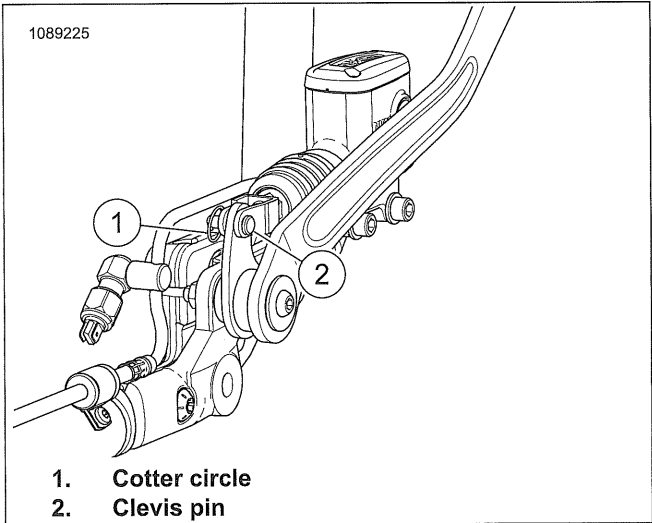

Figure 3-41. Rear Master Cylinder - Rear View: (exhaust remove for clarity)
- 1. See Figure 3-41. Remove cotter circle (1).
2. See Figure 3-41. Install clevis pin.